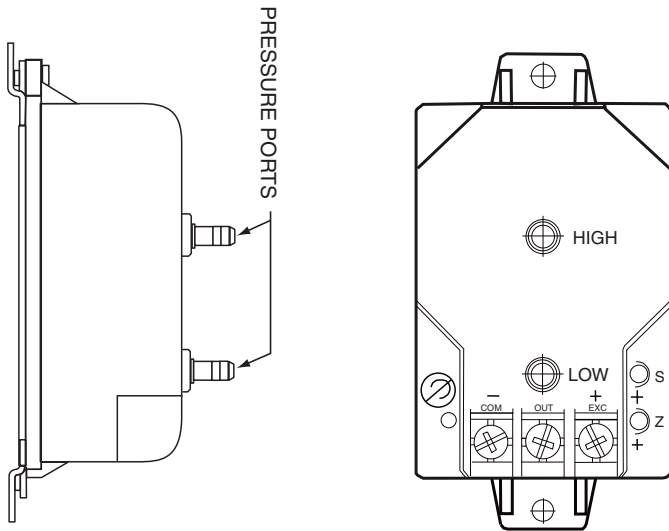

Fig. 13 — Building Pressure (BP) Transducer
6. Connect LOW tap of transducer to ambient location tap on unit using the control tube provided. Install field-supplied “tee” as required. See Fig. 13 and 14.